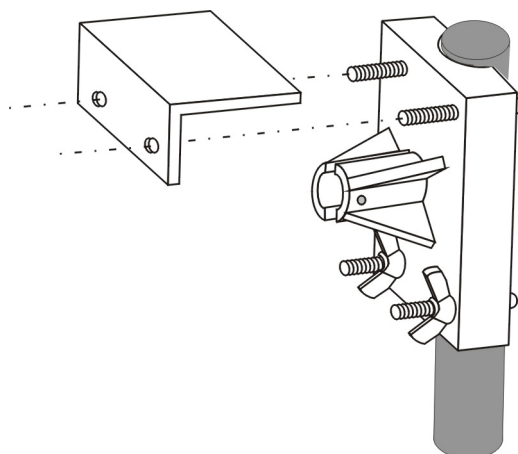

Figure 12: Installing the antenna shelf
- D. Insert the other U-bolt through the back of the base into the two upper holes and then place the antenna shelf so it sits on top of the pipe with the U bolt passing through its holes (see Figure 12)